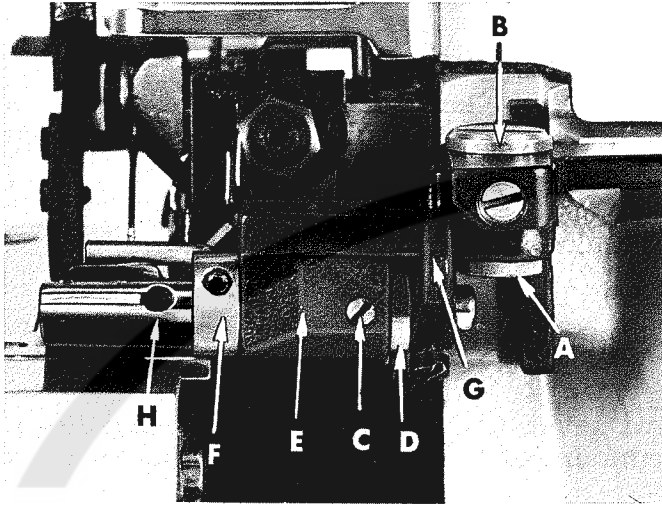

Fig. 28
These machines are equipped with an auxiliary pressure plate assembly (Fig. 28) which operates in conjunction with the presser foot. Check the operation of this assembly as follows:
1. Swing the pressure plate assembly in and out of its operating position and check to assure that it hinges freely on its pivot. If not, loosen lock nut (A, Fig. 28) and adjust shoulder screw (B) for smooth operation.
2. Loosen set screw (C, Fig. 28) and turn the shaft collar (D) counter-clockwise (viewed from the left side of machine) using the spanner wrench provided, so there is some tension on the tension spring located in the shaft bracket (E) and the pressure plate (A, Fig. 29) is forced down slightly.
7. Center pressure plate over the feed dogs by loosening the screws in the actuating collar (F, Fig. 28) and the operating lever (G), and then adjust shaft (H) laterally as required.
8. When retightening operating lever screw make sure that the feed dogs and the pressure plate are down, then tighten operating lever screw leaving approximately .005 to .010 inch (.127 to .254 mm) clearance (See Fig. 29) between operating lever and shaft bracket (E, Fig. 28).
10. The actuating collar (F, Fig. 28) should now be set so that, throughout one revolution of the machine, the minimum distance between the lifter rod and the presser foot is 1/32 inch (.79 mm). The lifter rod should be set to clear the tip of the presser foot if it is important that the shirring mechanism can be swung away without moving the presser foot away first.
11. Loosen set screw (C, Fig. 28) for final adjustment of pressure plate tension spring. Turn shaft collar (D) with spanner wrench until desired tension is acquired to obtain a uniform shirr. Retighten set screw (C).